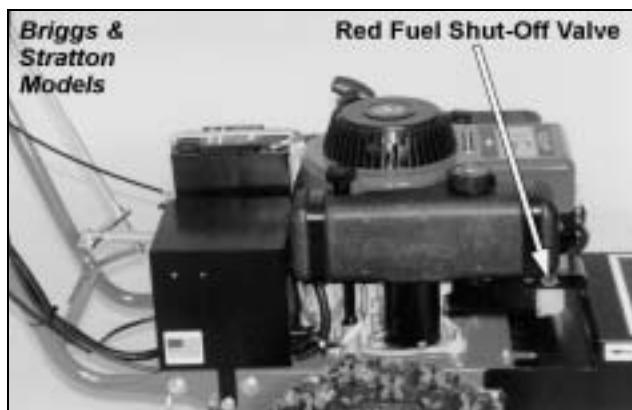

Figure 1
- On Briggs and Stratton models, the red fuel shut-off valve is on the fuel line near the bottom of the gas tank (*Figure 1*). Turn the valve 90 degrees to open.